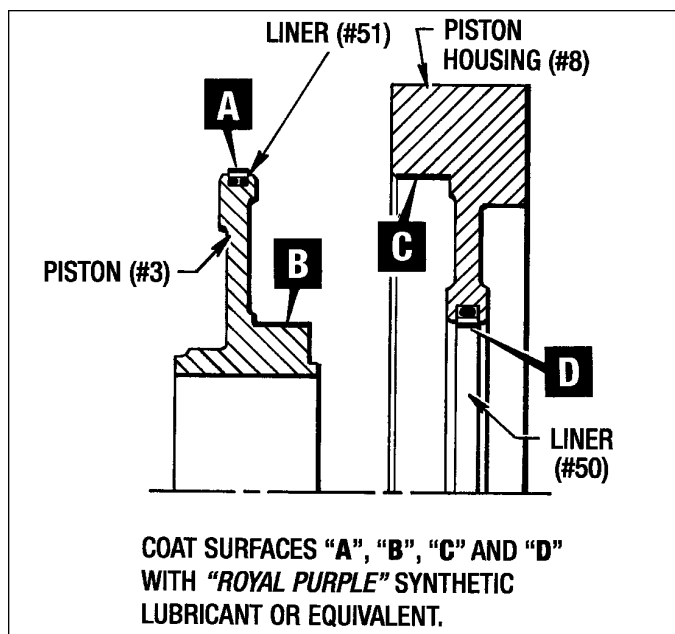

Figure 5.5 - Installing Piston (#3) into Piston Housing (#8)
3. Lift the End Housing (#16) off and remove the Springs (#40). The Pins (#54) will remain in the End Housing (#16) which will tell you where the springs go at Reassembly. Correct Spring Placement is also shown in Figure 5.5 if you wish to change the Braking Torque in your shop.
4. Remove the (6) Screws (#66) and (6) Lockwashers (#74) from the Piston Housing (#8).
5. Insert (3) 1/2"-13 x approx. 5" Lg. Jack Screws into (3) of the tapped holes in the Piston Housing (#8). There are (6) tapped holes. Use every other one. Tighten down evenly to release the Piston Housing from the (3) Driver Pins (#210) in the Main Housing (#9).
- Coat the surfaces indicated in Figure 5.5 with "Royal Purple" synthetic lubricant (or equivalent) and insert the Piston (#3) into the Piston Housing (#8). **Be very careful not to damage the Teflon Liners (#50) and (#51) when inserting the piston.**